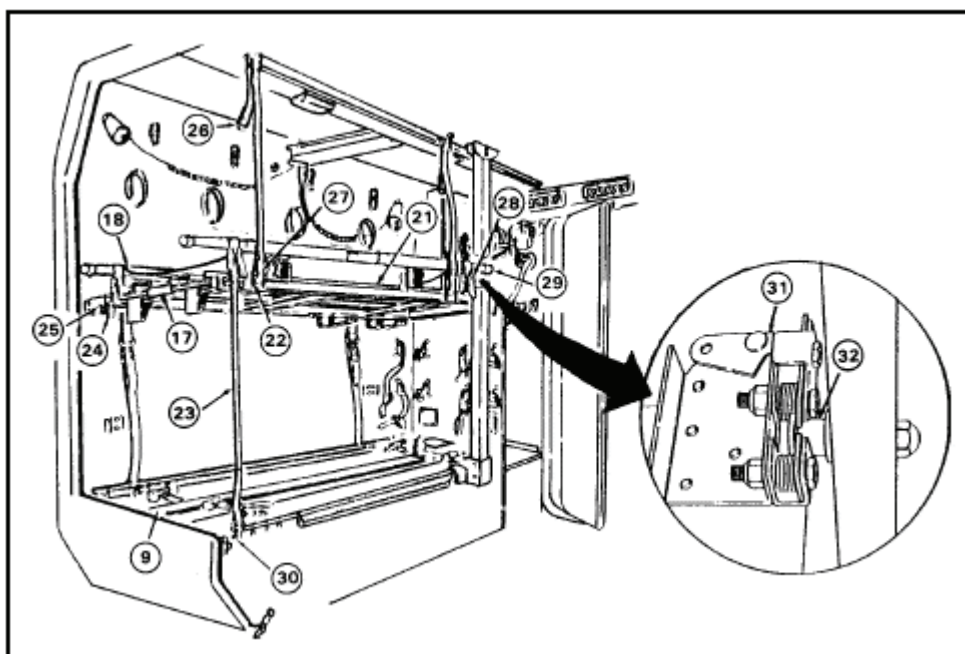

Figure 3-56. Fold upper litter rack to the backrest position
- (1) Unlock support braces (13).
- (2) Fold left and right rails (6) together.
- (3) Fold left and right litter rail legs (11) and feet (12) against rail (6).
- (4) Lift tray (15) and push tray supports (16) in, and lower tray (15).
- (5) Slide litters into stowage compartments (5) on top of lift tray (15). Pull out supports (16) to place lift tray (15) in raised position.
- (6) Place folded litter rail extension (4) into stowage compartment (5) and secure with strap (3).
- (7) Close door (2) and turn latch (1) clockwise to secure door (2).
- f. Fold upper litter rack to the backrest position. Refer to Figure 3-56.